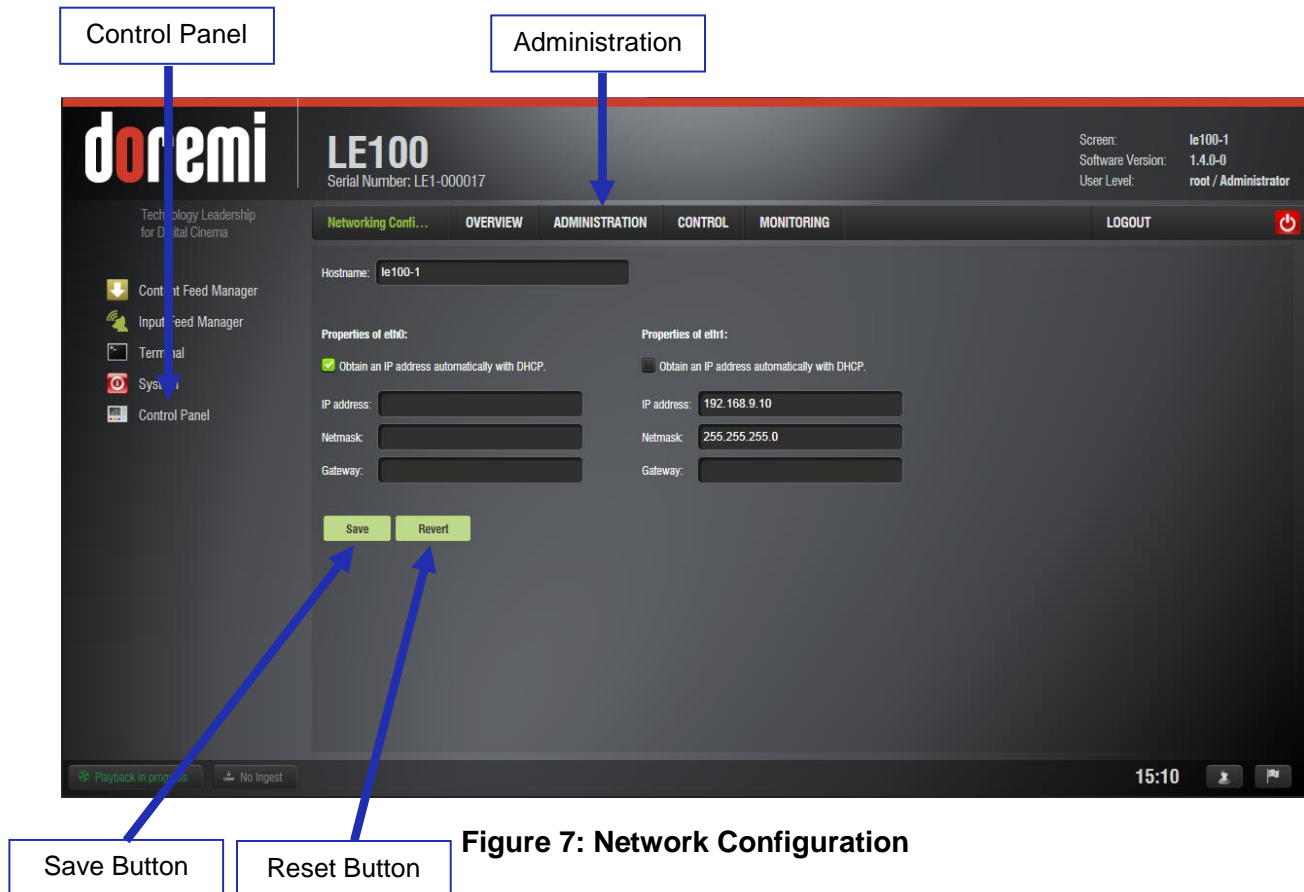

Figure 7: Network Configuration
- Fill in the appropriate information for either Ethernet Port 0 or Ethernet Port 1 and click on the Save button. The changes will take effect once the unit is rebooted (see Figure 7).